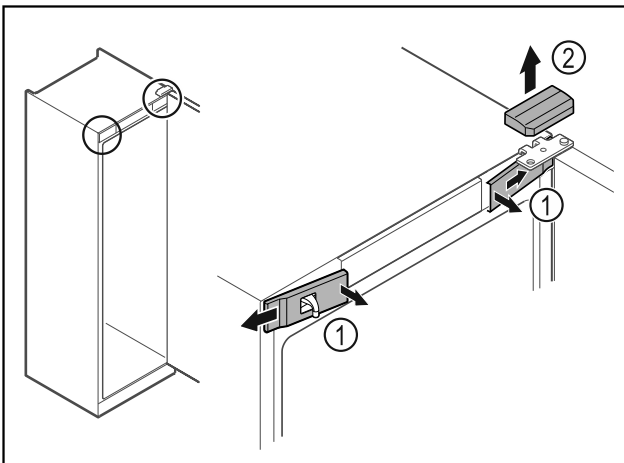

Fig. 16
- ▶ Unlatch the front covers *Fig. 16 (1)* on the inside and remove them sideways.
- ▶ Lift off the upper cover *Fig. 16 (2)*.